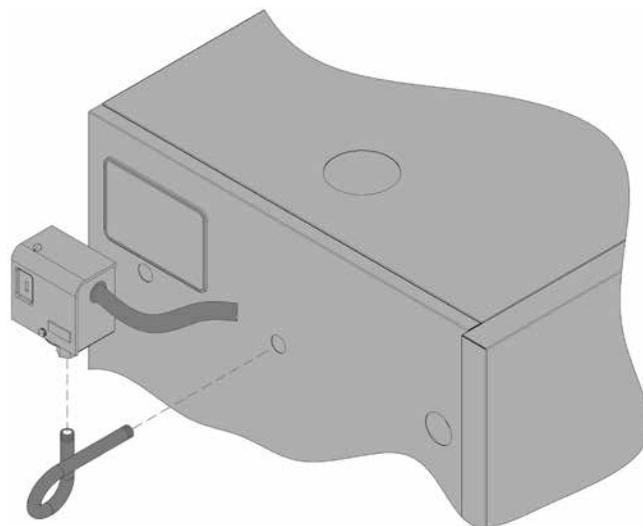

Figure 8: Pressure Limit Installation
5. Thread 1/4" NPT x 4" lg. syphon-threaded long end into pressure limit tapping on front section. See Figure 8 "Pressure Limit Installation.